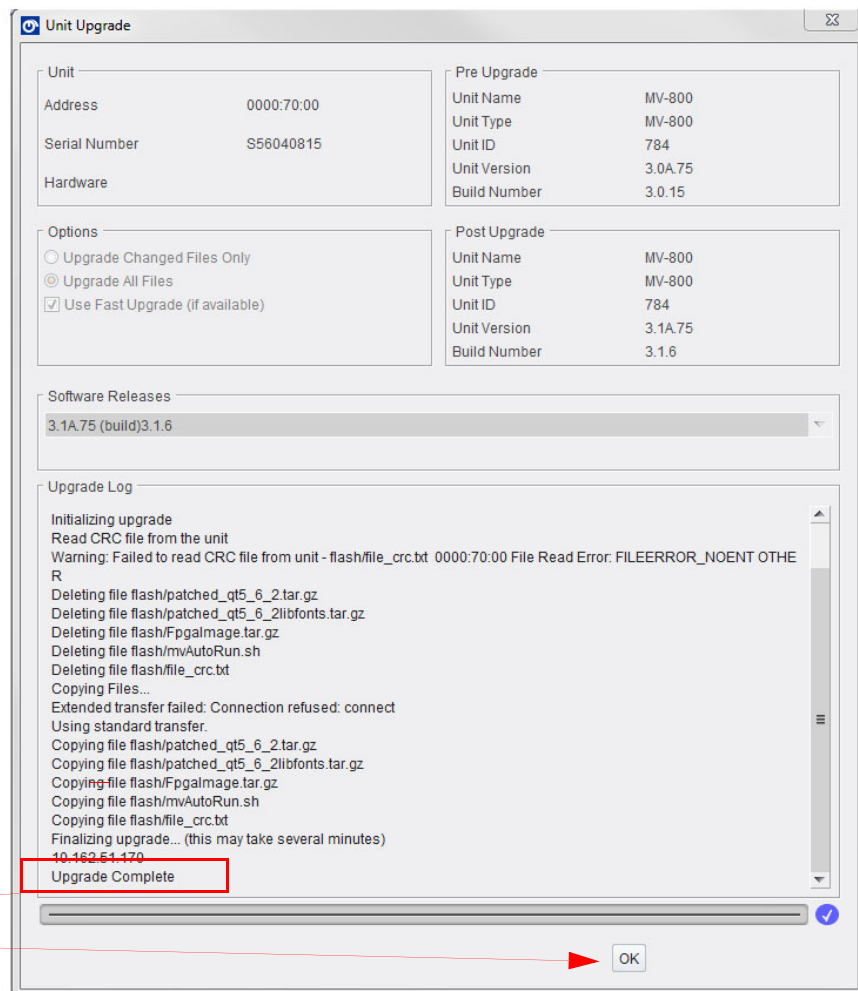

Fig. 8-14: Typical Upgrade Log Messages - Upgrade Complete
- 11 An ‘Upgrade Complete’ message finally appears in the Update Log pane of RollCall Control Panel when the upgrade is done. See Figure 8-14 for typical **Update Log** messages.